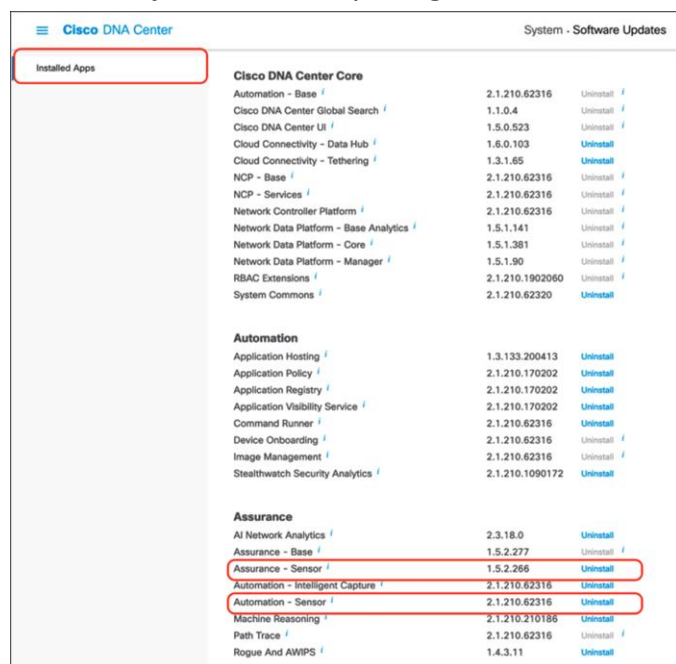

Figure 1. Location of the Assurance - Sensor and Automation - Sensor packages
2. Click System > Software Updates, then click Installed Apps on the left. Scroll down to Assurance and you will find the packages available there for download or install (**Figure 1**).